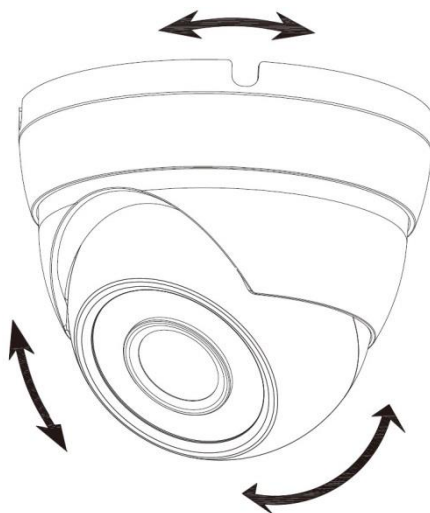

Figure 3-3
- Step 1** Find the mounting template sticker from the accessory pack and stick it to the mounting surface①
- Step 2** Drill screw holes (and the cable outlet hole if it needs to go through the mounting surface) on the mounting surface as indicated on the mounting template, then insert expansion bolts② from the accessory pack in the screw holes.
- Step 3** Hold the pedestal③ tightly and keep the device⑤ upward, rotate the fixing ring⑦ counterclockwise until you can detach it from above, and then take off the pedestal③.
- Step 4** Adjust the location of the pedestal③ according to cable outlet requirement (top out or side out), then pull the cable out through mounting surface or the side cable tray. Align the screw holes on the pedestal③ to those on the mounting surface, then put in and fasten the supplied self-tapping screws④ to attach the device⑤ to the mounting surface.
- Step 6** Put the fixing ring⑦ back to hold the enclosure⑥, leave some spaces enough for you to adjust the device⑤. Aim the lens to the ideal angle (see Figure 3-3) and fasten the fixing ring⑦.